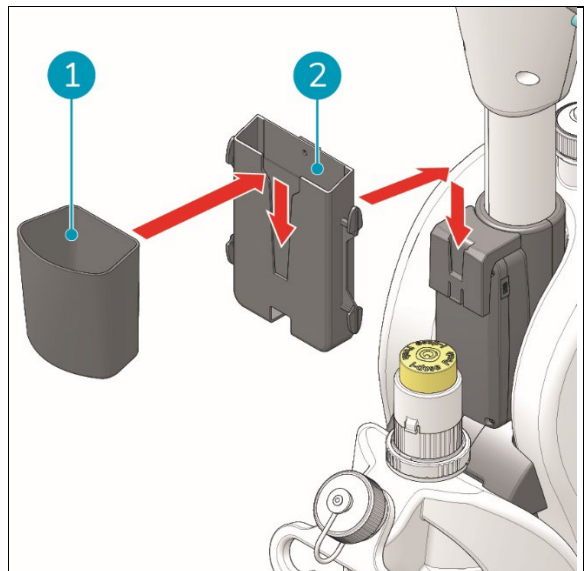

Figure 14
1. Slide the rear of the cellphone holder (Figure 14, pos 2) into the slot of the holder. Slide the rear of the recycle bin (Figure 14, pos 1) into the notch on the cellphone holder.